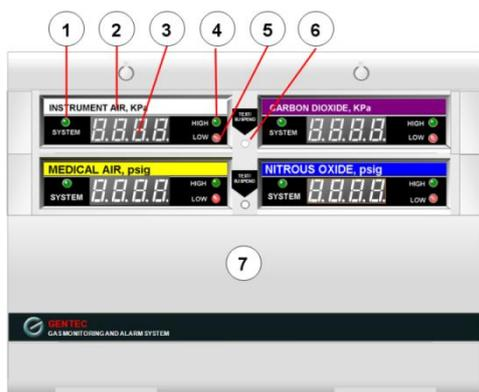

Figure 1-1 Front view of a Gentec four-gas area alarm (GUMACS-BAA-L-4) with extra internal space for housing sensors or other accessories, where
3. As shown in Figures 1.1 and 1.2, each data channel is provided with
The functions of the panel components shown in Figures 1.1 and 1.2 are explained below:
1. Carefully detach two screw caps at the top edge of the system (see Figures 1.1 and 1.2). Remove the fastening screws and swing down the module assembly to its horizontal position.